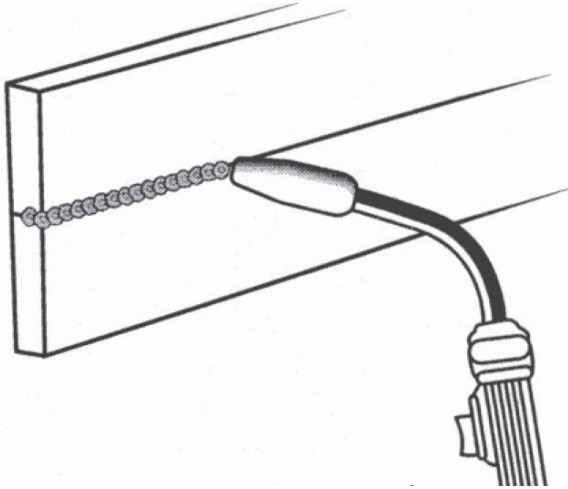

Figure 16. Horizontal Position
2. The HORIZONTAL POSITION (Figure 16) is next in difficulty level. It is performed very much the same as the flat weld except that angle B (see HOLDING THE GUN - p.18) is such that the wire, and therefore the arc